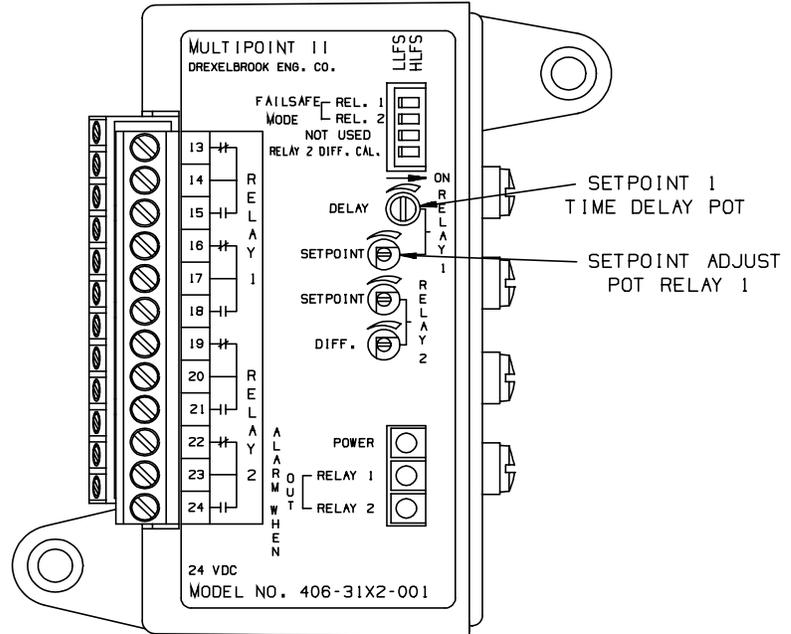

Figure 3-4
- Then adjust the *Setpoint Relay 1* pot (turn clockwise) until the LED just changes state. The setpoint is now adjusted. See Figure 3-4.